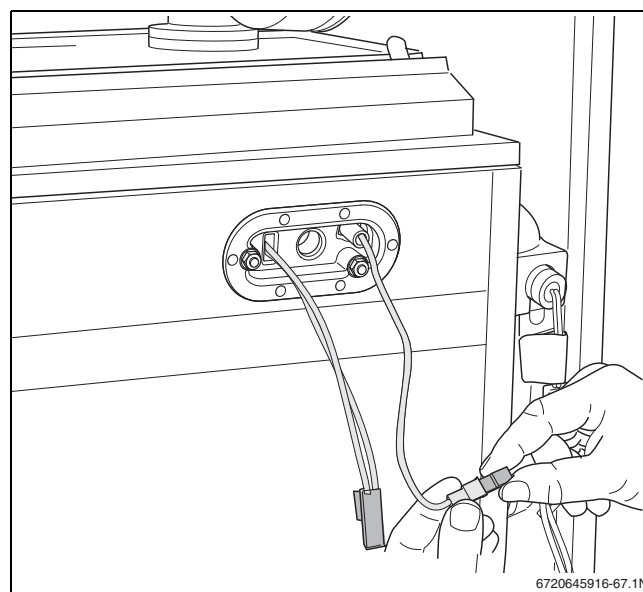

Fig. 72 Removing the ionization electrode plug and socket connection
- ▶ Undo the plug and socket connection of the monitoring cable (→ fig. 72).